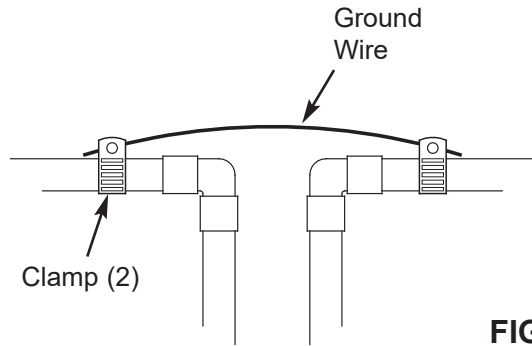

FIG. 11
- a. Install a #4 copper wire across the removed section of main water pipe, securely clamping at both ends (See Fig. 11). Parts not included.